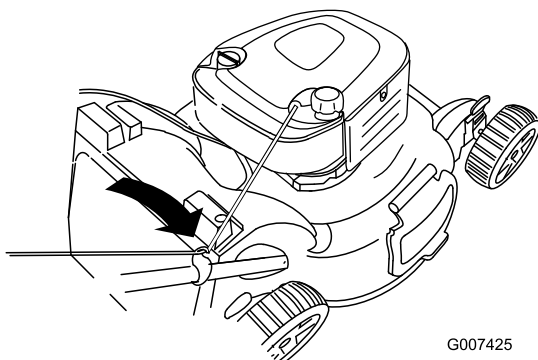

Figure 30
2. Route the starter rope around the lower rope guide (Figure 30).